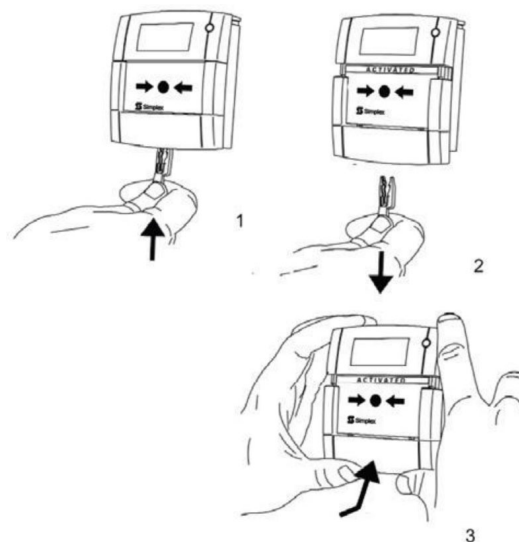

Figure 2: Callpoint Testing
**Callpoint testing** is performed by inserting the key fully into the bottom of the housing and pulling down, this releases the bottom of the housing and break glass element. To reset the callpoint, the bottom of the housing is pushed upwards until it locks in position. (See Figure 2)